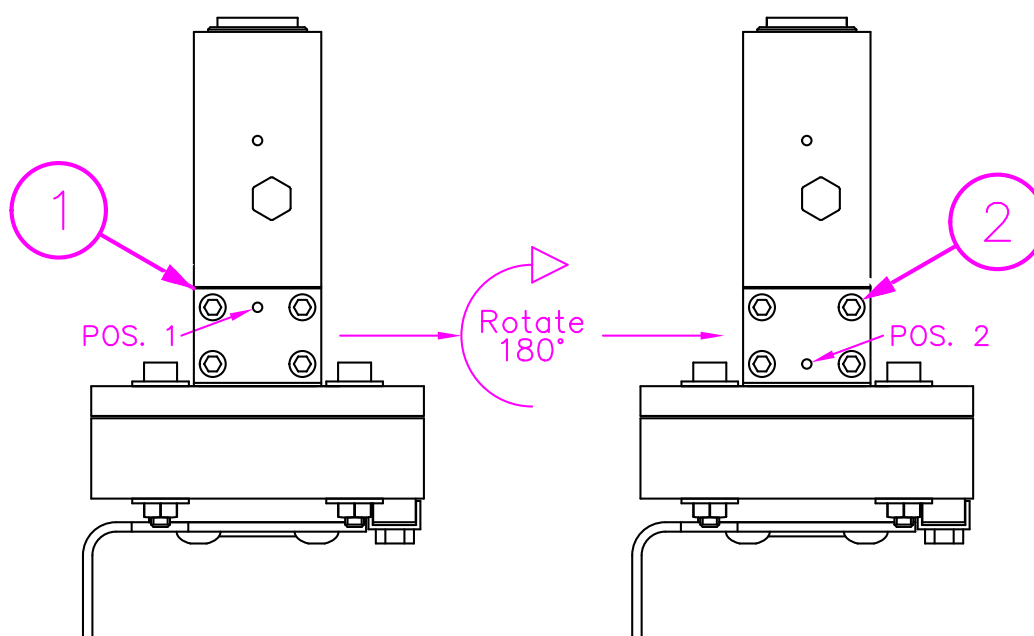

Fig.GEN-01
The Guardian Mk.3.1 is user configurable and must be configured to the desired mode prior to use. Check the configuration of the function plate as shown in Fig.GEN-01 in conjunction with the associate table below.
1. Using a flat bladed screwdriver adjust the set point regulator adjustment screw (Fig.GEN-01, 2) of the Guardian anti-clockwise until it turns freely.
5. Slowly increase the set point regulator adjustment screw (Fig.GEN-01, 2) (clockwise) until the reset button stops trying to pop out.
1. Using a flat bladed screwdriver adjust the set point regulator adjustment screw (Fig.GEN-01, 2) of the Guardian anti-clockwise until it turns freely